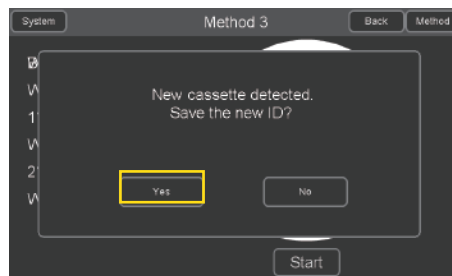

Fig. 8
4. Press OK to save cassette ID as show in Fig. 8.